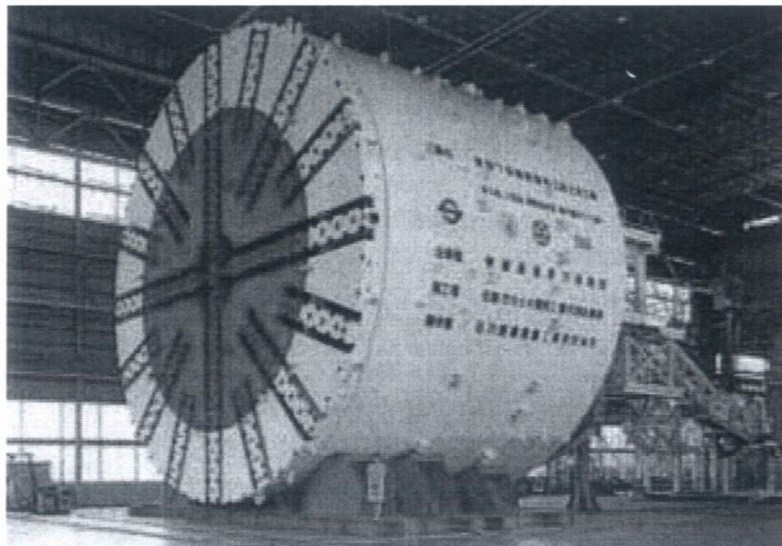

Figure 2. PARENT-SHIELD TYPE. (Ø14.18/9.70 m.), TOKYO METRO
- 1994. Construction of nesting parent shields which allow excavations in right angle or in the same direction with a different diameter. (**Figure 2**).